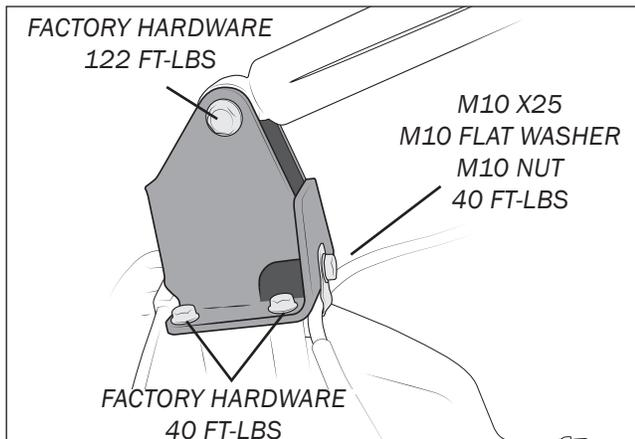

Figure 43
3. Install AEV Power Hop bracket with factory hardware (if equipped). Attach the parking brake cable to the power hop bracket with supplied hardware and torque (fig. 43).